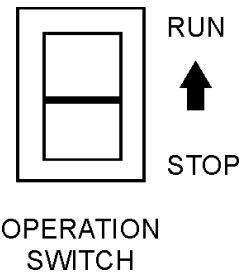

Figure 13. Operation Switch (RUN)
4. Place the **operation switch** (Figure 13) in the "**RUN**" position.